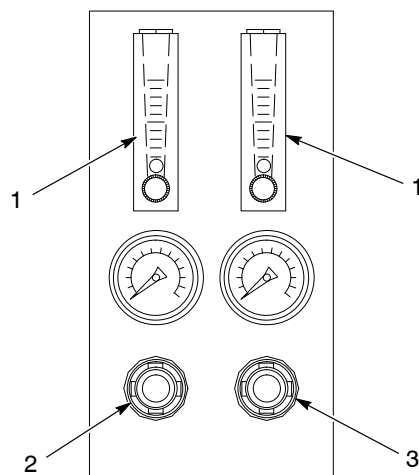

Figure 2-11 Rotary Sieve Pneumatic Panel
See Figure 2-11. This pneumatic panel is used with Nordson NRPS-100 and AZO rotary sieves. Older Nordson rotary sieves did not have a pneumatic panel.
1. If your system uses a rotary sieve equipped with a pneumatic panel, set the bearing air seal air pressure to 1.7 bar (25 psi) and the flowmeters to 100 SCFH. See Figure 2-11.